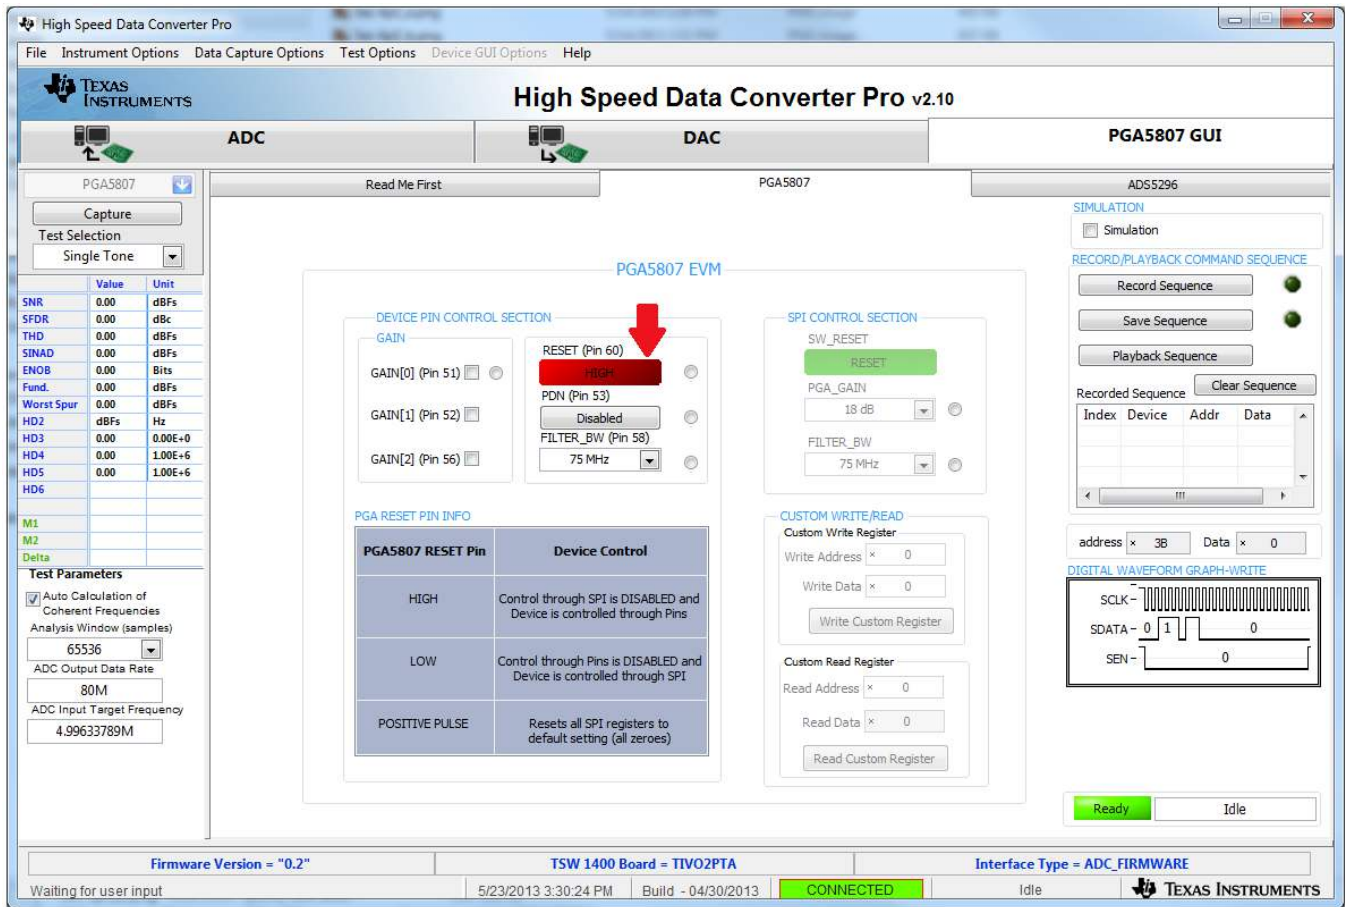

Figure 48. PGA5807 GUI Setup for PGA5807+ADS5296 Gain Test 3
- The same gain test can be performed using the device pins to set the gain instead of the SPI. At the *PGA5807* tab, change the state of the **RESET (Pin 60)** control to *HIGH*. This will disable the *SPI CONTROL SECTION* and enable the *DEVICE PIN CONTROL SECTION* as shown in Figure 48.